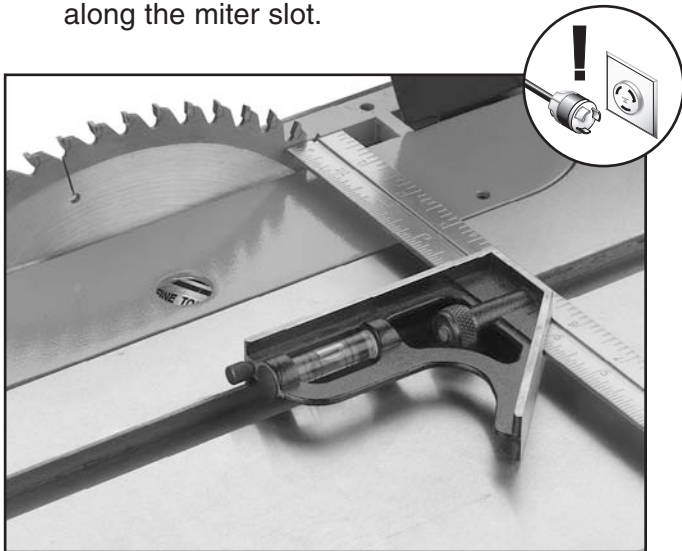

Figure 76. Example of adjusting blade to miter slot.
2. Use an adjustable square to measure the distance from the miter slot to a carbide tip on the blade as shown in **Figure 76**. Make sure that the face of the adjustable square is even along the miter slot.